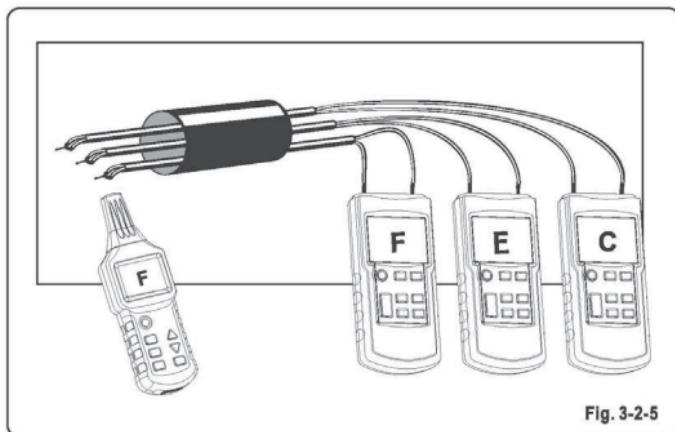

Fig. 3-2-5
- * Connect the emitter as shown in Fig. 3-2-5.